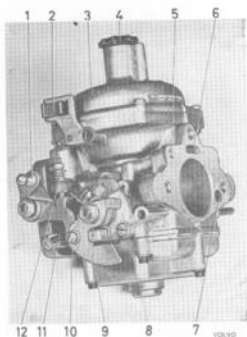
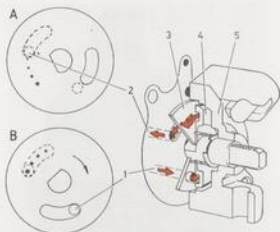

Fig. 2-69. Stromberg-carburetor, left side, B 20 A
Fig. 2-76. Cold-start device
The carburetor for the B 20 A engine is shown in Figs. 2-69 and 2-70. It has been designed with a view to obtaining cleaner exhaust gases by means of a gas evaporative control system.
The carburetor is fitted with a cold start device (8, Fig. 2-69) in order to provide the engine with extra fuel for cold starting.
To facilitate starting during cold weather, the carburetor is provided with a cold start device (Figs. 2-76 and 2-77).
The cold start device consists of a choke lever (3, Fig. 2-76) which is provided with four calibrated holes and an elongated opening as well as a channelled disc (4) mounted on a spindle which is operated by the choke control. On the same spindle, outside the housing (5), there is a cam disc (9, Fig. 2-69) with connection for the choke control pull wire. When the cold start device is engaged, the valve disc turns and this links up the channel (1, Fig. 2-76) from the floatchamber via one or several of the calibrated holes to the channel on the other side of the valve disc and further through the drilling in the channel (2), which terminates in the venturi between the vacuum plunger and choke flap. By means of this link-up the engine receives extra fuel (richer mixture) to facilitate cold starting. At the same time, a little extra air is obtained by means of the choke device. When the choke control is pushed in, the valve disc turns and closes the inlet to the channel. At the same time as the cam disc is operated, the throttle flap opening is also influenced in such a way that turning the cam disc opens the throttle through the fast idle stop screw (11, Fig. 2-69) and the lever, before any of the calibrated holes open the connection to the fuel drilling. With this arrangement, the idling speed can, if necessary, be raised by the driver of the vehicle during the warming-up period of the engine.